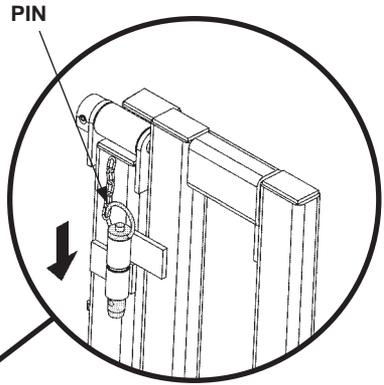
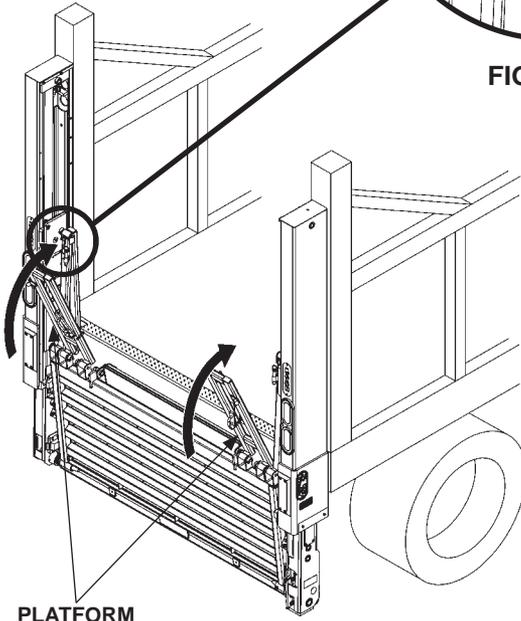

FIG. 30-1B
FIG. 30-1A
- 4. When finished loading and unloading from the dock, raise platform railing on each side of platform as shown in **FIG. 30-1A**. Pin platform railing to platform as shown in **FIG. 30-1B**.